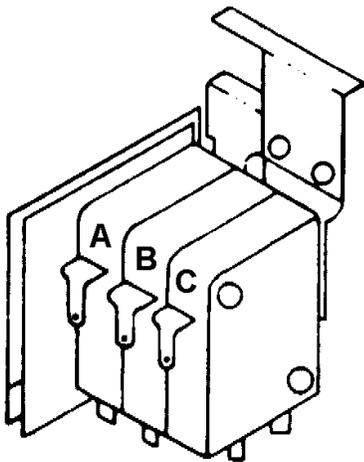

Figure 2
8. Install a cluster (triple) switch with the 1 ½" mounting screws provided in the kit. See figure 2.
9. Plug the red vend switch housing to the vend switch. See A, figure 2. Insure that all three terminals are seated properly.
10. Plug the white by-pass switch housing to the by-pass switch. See B, figure 2. Insure that all three terminals are seated properly.
11. Plug the counter switch housing to the counter switch. See C, figure 2. Insure that all three terminals are seated properly.